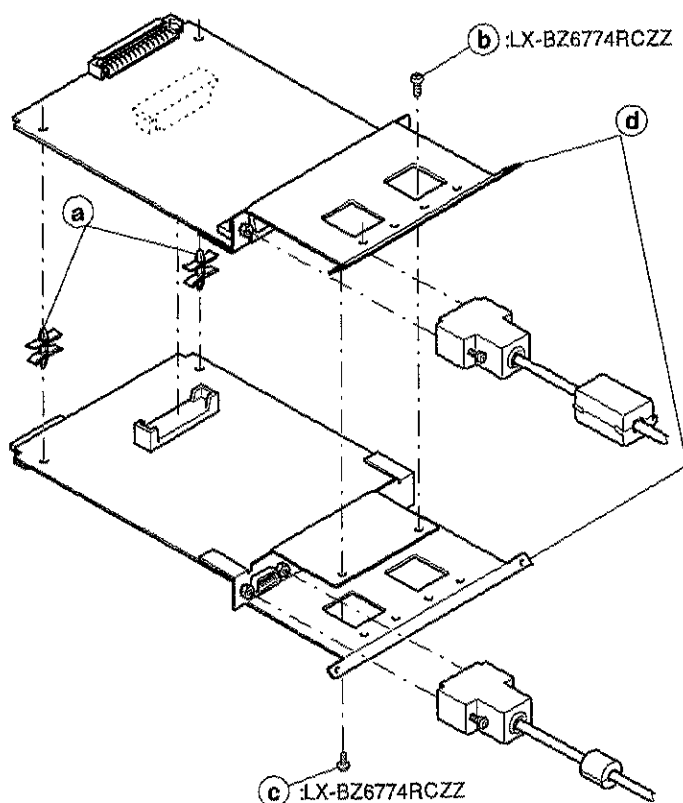

Fig. 3
- ① Insert two spacers (a) and connect the connectors of the interface PWB together (Fig.3).
- ② Secure the brackets (d) with the screws (b) and (c) (LX-BZ6774RCZZ: Self tap screw).